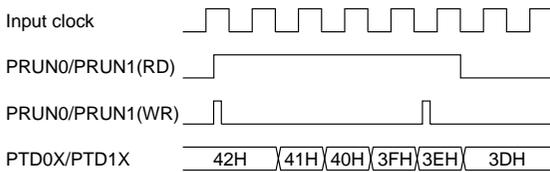

Fig. 5.10.11.1 Timing chart of RUN/STOP control
- (1) The programmable timer is actually made to RUN/STOP in synchronization with the falling edge of the input clock after writing to the PRUN0(1) register. Consequently, when "0" is written to the PRUN0(1), the timer shifts to STOP status when the counter is decremented "1". The PRUN0(1) maintains "1" for reading until the timer actually shifts to STOP status. Figure 5.10.11.1 shows the timing chart of the RUN/STOP control.